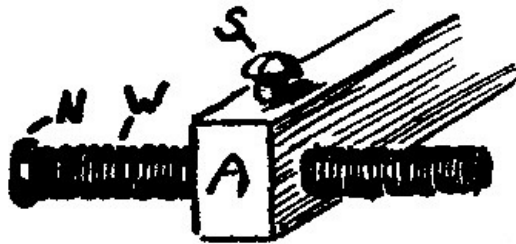

Fig. 48.
**101. Nail Armatures.** Fig. 48. A nail, *N*, placed through a piece of wood, *A*, will serve as a very simple armature. To make it a little heavier, if necessary, a piece of annealed iron wire, *W*, may be wound around *N*. Care should be taken to have the two parts fairly alike in size and weight.